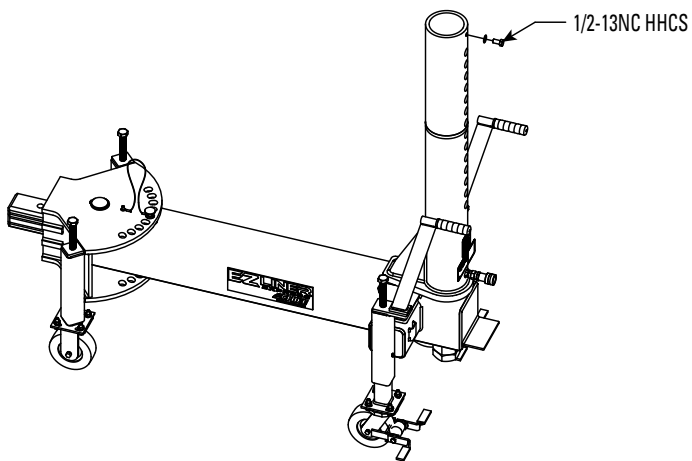

Figure 5
2. Remove the 1/2-13NC HHCS and 1/2" washer from the top of the Tower Pipe (see Figure 5).